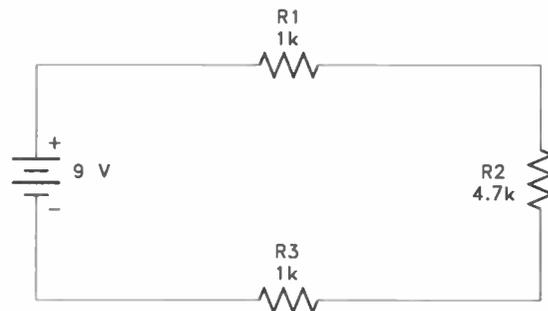
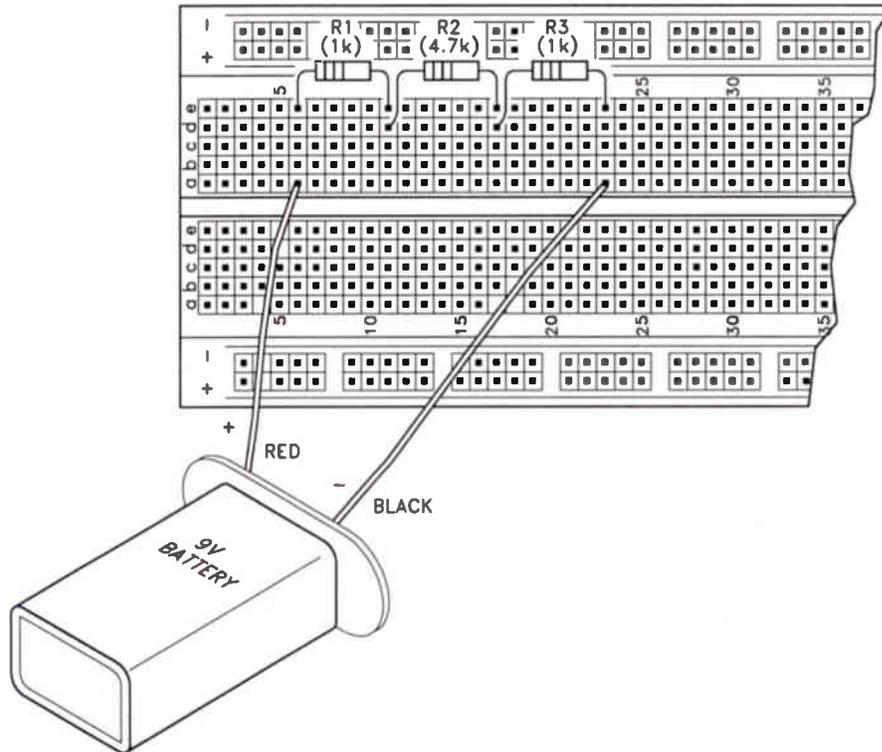

Figure 4-1. A schematic diagram of the circuit for Experiment 4.
Figure 4-2. An illustration of the circuit for Experiment 4.
**Step 1.** Build the circuit shown in Figure 4-1. The diagram for this circuit is shown in Figure 4-2, on the next page. Notice the polarity of the battery. Also, the red meter probe should be reconnected to the V input jack. Set your DMM selector switch to the 20 V range.